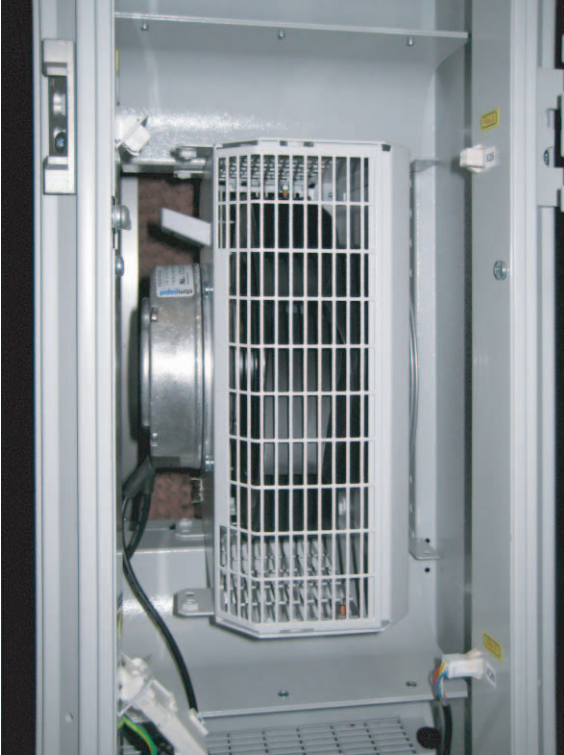

Fig. 40: Rotated fan module in fan tray
- Rotate the fan module in the rack in a clockwise direction by 90° (fig. 40).